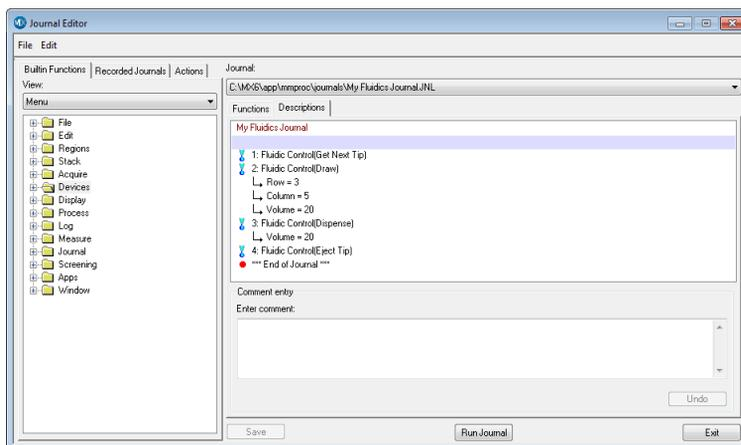

Figure 2-10: Example Journal using manual fluidics control
4. To modify the journal, click **Journal > Edit Journal**, and then select the journal to be edited. See Figure 2-10 on page 42.